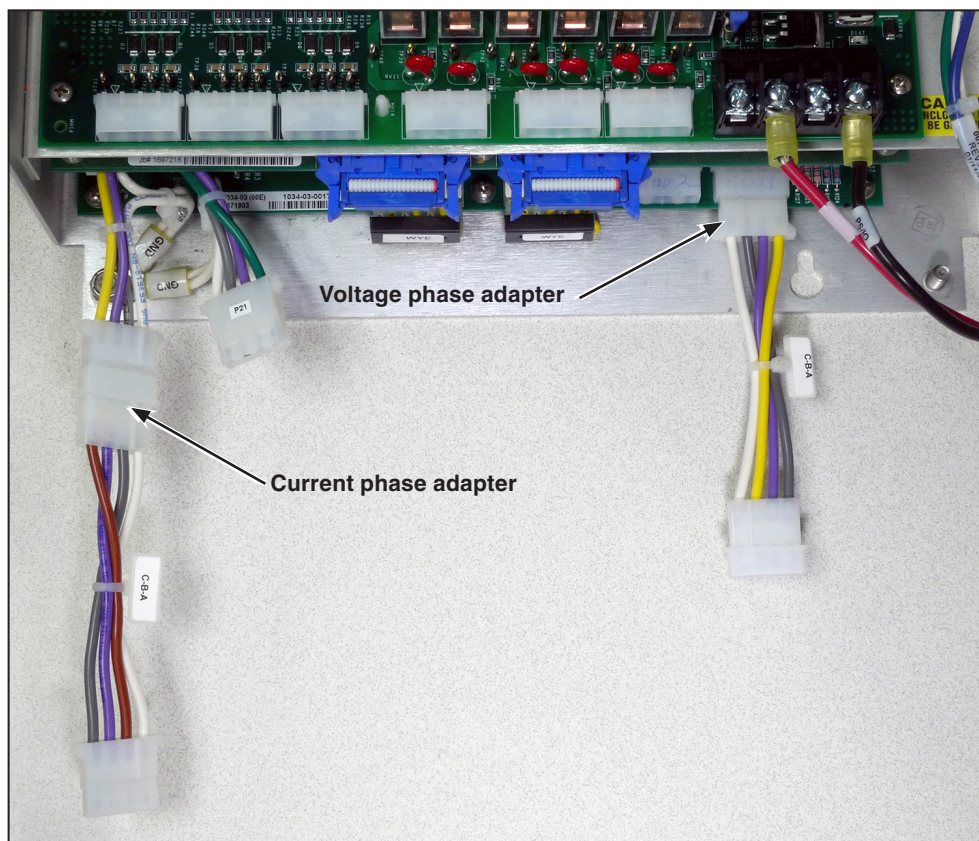

Figure 7. Installed current and voltage phase-adaptor harnesses.
- STEP 4.** Insert the current phase adapter between the current sensor input cable and plug 20. See Figure 7. The plugs cannot be installed incorrectly at this location.
- STEP 5.** Insert the voltage phase adapter between the voltage sensor input cable and jack J7 on the PCB. See Figure 7. The plugs cannot be installed incorrectly at this location.